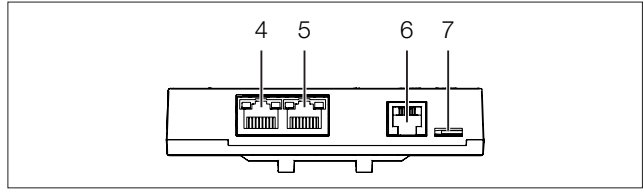

Fig. 10: Rear of the Access Control
- Use a CAN bus connection cable to connect the Access Control to a CAN bus interface on the CMC III Processing Unit or the neighbouring component on the CAN bus (Fig. 10, item 4).
- If necessary, connect another component (e.g. another sensor type) to the second, free CAN bus interface of the Access Control (Fig. 10, item 5).